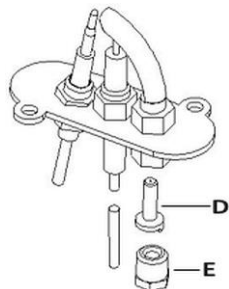

Fig. 8
1. Loosen the fixing nut (E, Fig. 8).
2. Remove the ignition burner nozzle (D).